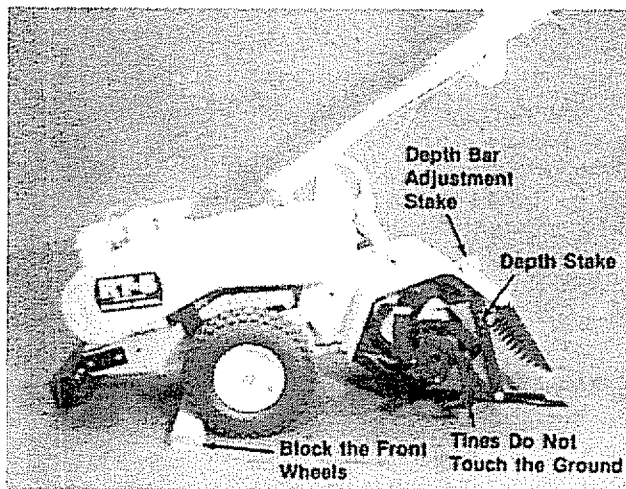

FIGURE 18.
2. Pull the depth bar adjustment pin and move the depth stake all the way down, so the lines DO NOT touch the ground. See figure 18.
3. Block the front wheels as shown in figure 18.